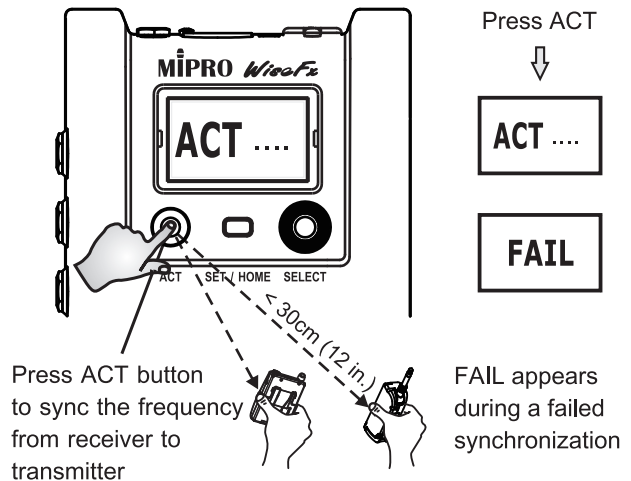

Fig. 27
(U) ACT Channel Sync Operating Instructions, Fig. 27: